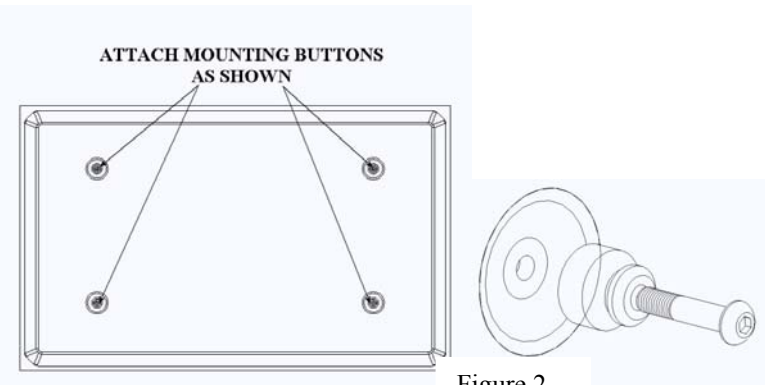

Figure 2
1. Attach mounting buttons to plasma using four M8 x 40 cap screws provided (see figure 2).